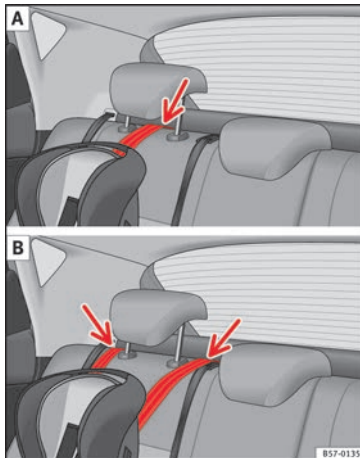

Fig. 37 Retainer strap: adjustment and assembly according to the Top Tether belt.
- Place the belt under the head restraint of the back seat »» **Fig. 37** (depending on the in-